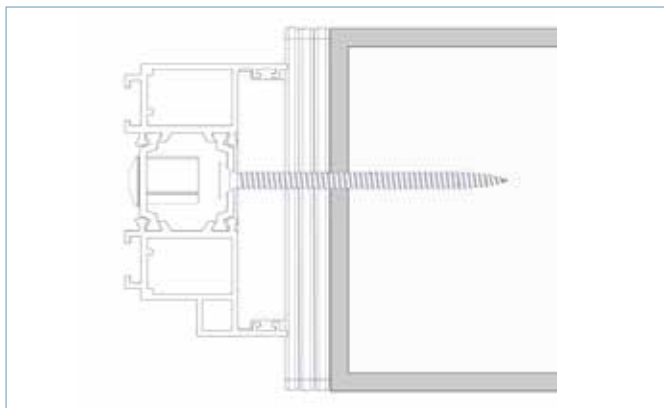

FIG 5C
- ▶ **5.4.** Align the bottom of the jambs with the end of the bottom track. Using frame packers between the jamb packers and the wall, level out the jambs in all directions and fix into position with your preferred fixings as shown in FIG 5C.